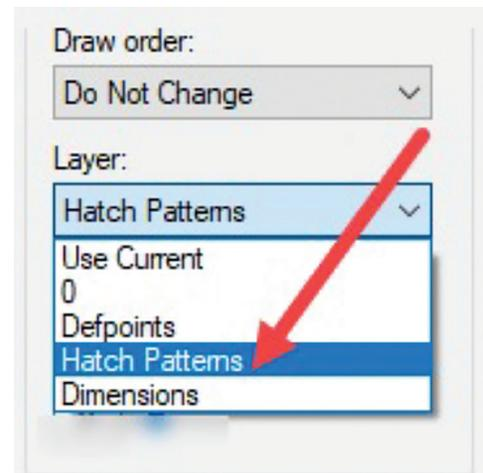

Figure 10: Default Hatch Layer
Controls the default layer which hatch patterns are placed on. This can be controlled via the Hatchedit (HE) dialog box as well as shown in Figure 10.